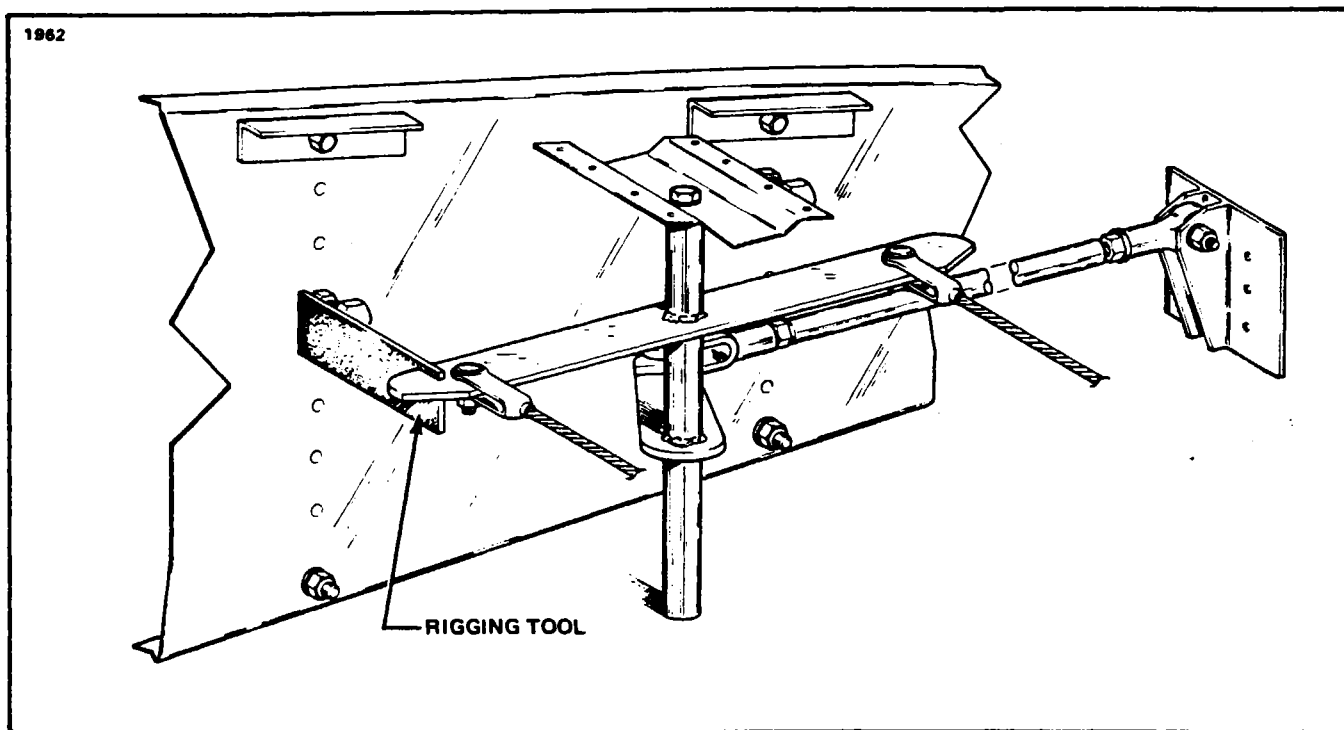

Figure 5-3. Bellcrank Rigging Tool
5. Affix the bellcrank rigging tool as shown in Figure 5-3 between the arm of each bellcrank and the adjacent rib. The slotted end of the tool fits on the arm forward of and adjacent to the primary control cable end. The other end of the tool is positioned so its side contacts the aft side of the bellcrank stop. The bellcrank must be moved to allow a snug fit of the tool between the bellcrank arm and rib. To do so, it may be necessary to loosen a primary control cable or balance cable.